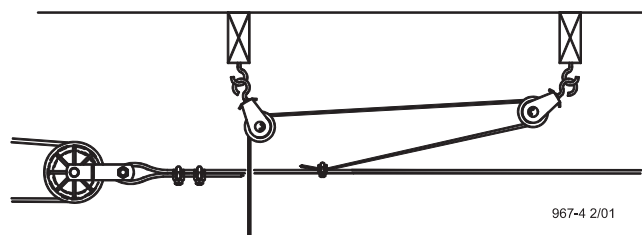

Figure 20. "Throwback" cable arrangement
3. Allow enough cable length for installation of the Adjustment Leveler. Sufficient cable is included to provide "throwbacks" on drops located beneath and near the winch. **Figure 20**, shows a "throwback" cable arrangement.